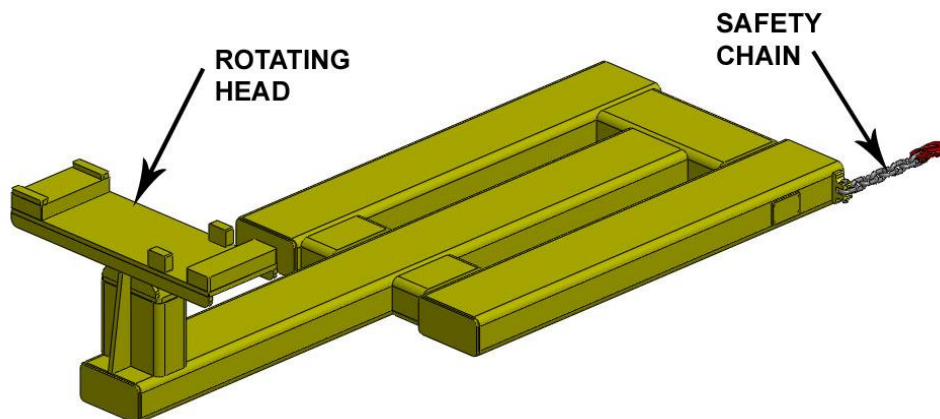

FIGURE 1
1. Inspect the fixture prior to use. The safety chain must be in place and the locking grab hook working properly. The rotating head mechanism must be moving freely (Figure 1).
3. Place the fixture on the Forklift and attach the safety chain to the forklift mast (Figure 1).
4. Move the fixture under the draft gear assembly to be replaced. The fixture may be moved into place from the either side or the end of the freight car. Rotate the fixture head as necessary to place it directly under the assembly (Figure 1).